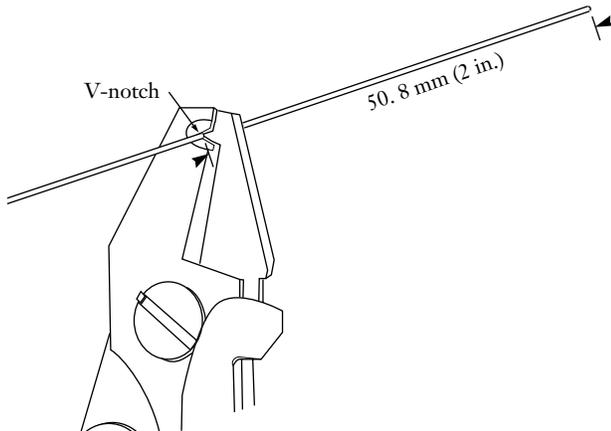

Figure 3
- d) Strip the fiber coating in 50.8 mm (2 in.) increments (Figure 3) with a smooth, straight pull.